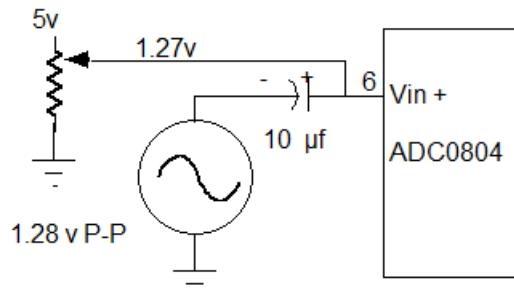

Figure 5: Input Sine Wave with Offset
6. Add a sine wave generator in parallel with the pot set at 1.25v to the input of the A/D as shown in Figure 5. Compare and plot the input sine wave input vs. DAC output waveforms. Use approximately 200Hz input frequency